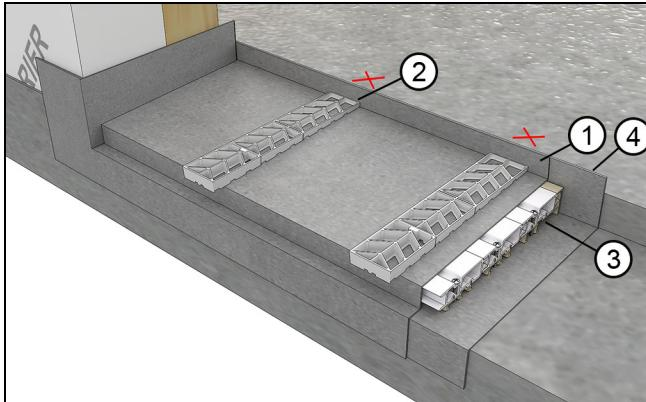

Figure 13 Set counter-shims
3. Place the counter-shims in the panning every 10"(254) using the marks you made earlier as a guide. The counter-shims should be placed beside the fastener locations (opposite side of the drain routs). See Figure 13.